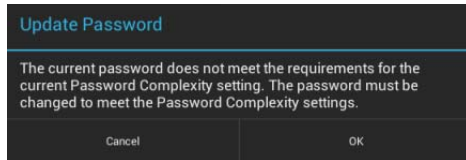

FIG. 97 Update Password dialog
- The panel will prompt you to create a new password that meets the minimum complexity requirements for High Security mode (FIG. 97): .